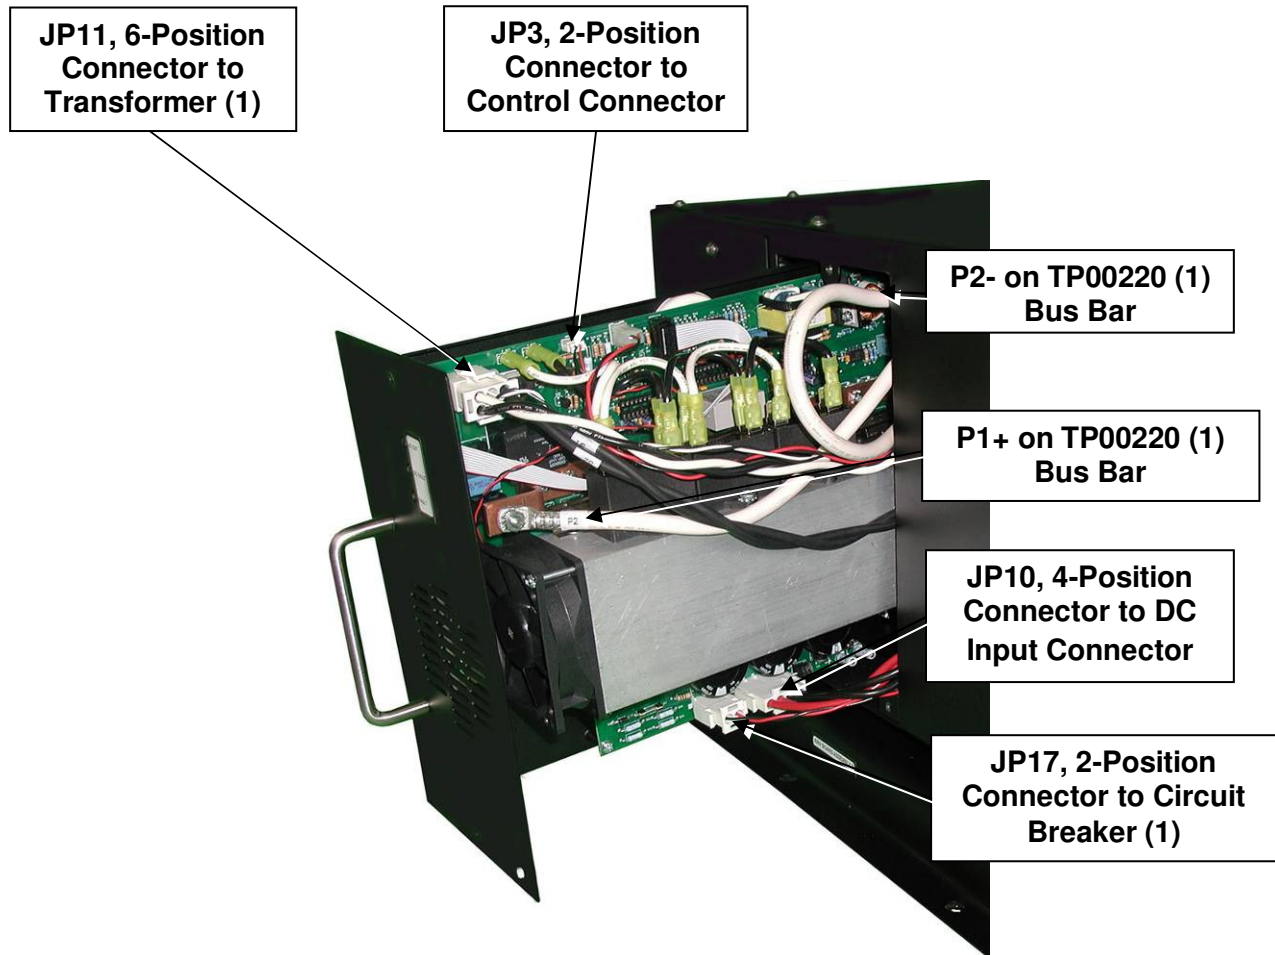

Figure 15: Removing Power Inverter Module
5.13 INSTALLING REPLACEMENT POWER INVERTER MODULE: – See Figure 15